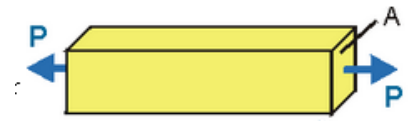

Fig.1
- as shown in Fig.1 if a force 'P' is applied at a cross section 'A' than